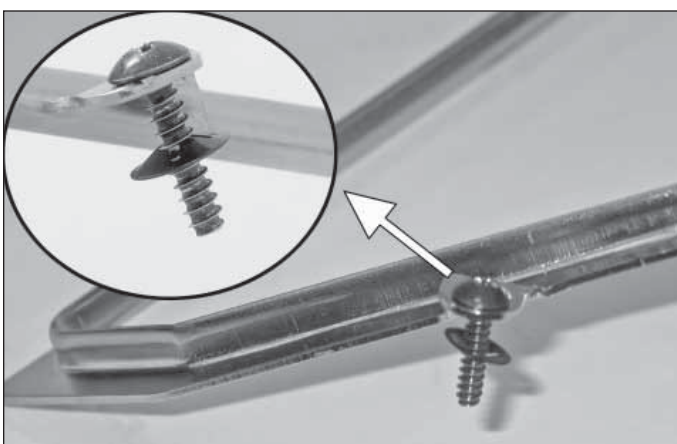

Fig. 2
3. Install the stock screw into provided steel filter plate and then install provided washer ensuring rounded side of washer sits against steel filter plate. Washer only needs to be threaded approximately half way onto screw. Repeat for other side of filter plate. (Fig.2)